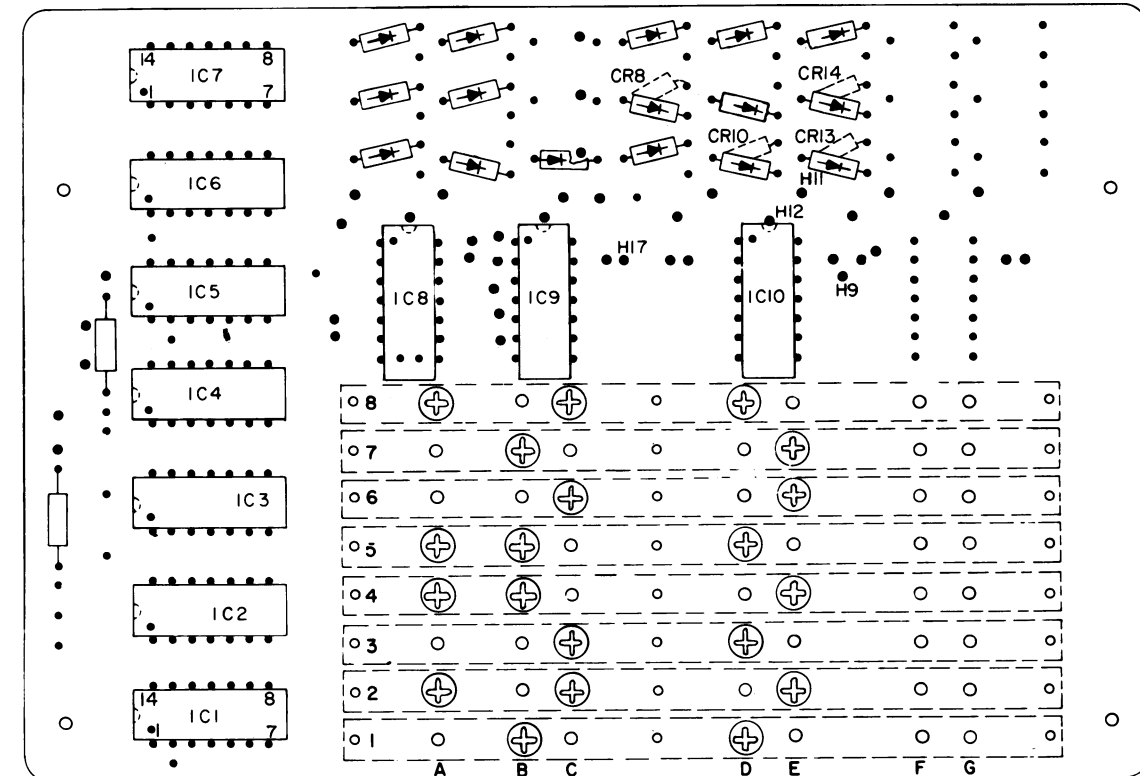

Figure 16 - Counter Board
1. If the decoder is strapped for a four-digit "Repeater On" code, move CR13 and CR14 to the dotted position as shown in Figure 16.